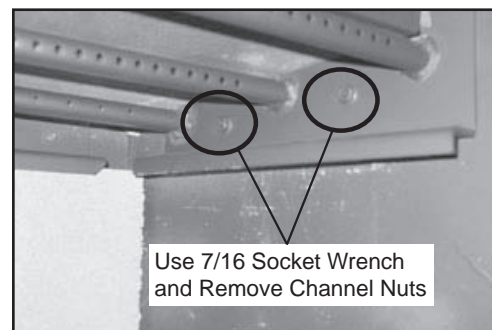

Figure 24.2
3. Locate the 2 channel nuts inside of chamber and remove using a 7/16 socket wrench. **Figure 24.2.**